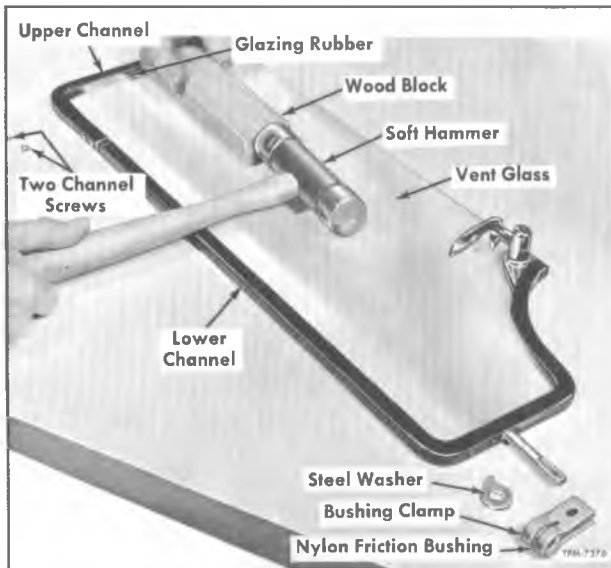

Figure 25—Vent Window Disassembled
5. Remove two screws which attach glass upper channel to glass lower channel (fig. 25).
2. Position new glazing rubber (soapstone side away from glass) around edge of glass. Press glass with glazing rubber into lower channel, then press upper channel over top of glass. Make sure channels are firmly seated, then install two small screws which attach channels together (fig. 25).